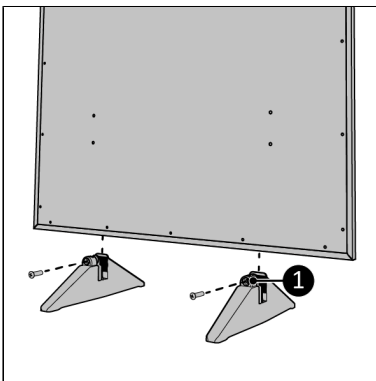

Figure 39.
2. Screw and tighten the pedestals (Figure 39, pos. 1).